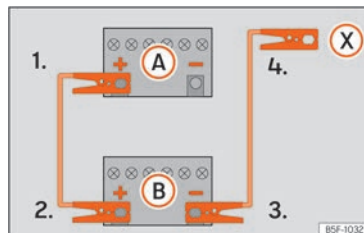

Fig. 46 Diagram of connections for vehicles without Start Stop system
2. Connect one end of the red jump lead to the positive terminal of the vehicle with the flat battery **A** » **Fig. 46**.
- 4a. *In vehicles without a Start-Stop system:* connect one end of the black jump lead to the negative terminal of the vehicle providing the current **B** » **Fig. 46**.